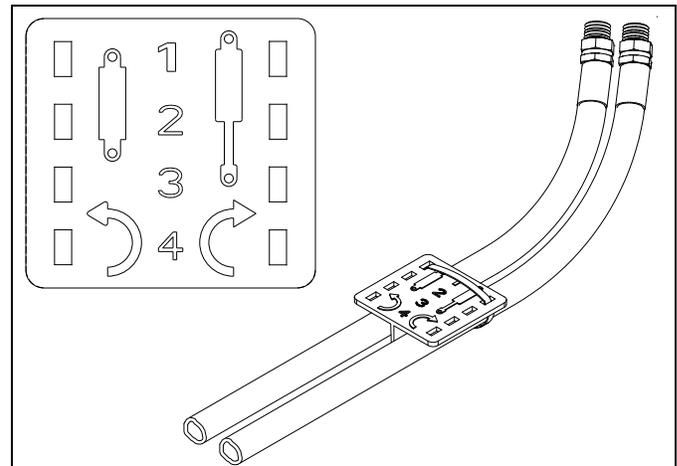

Figure 14
**ADC 2220/1150 Older Style Hoses with Color Ties****Refer to Figure 14**